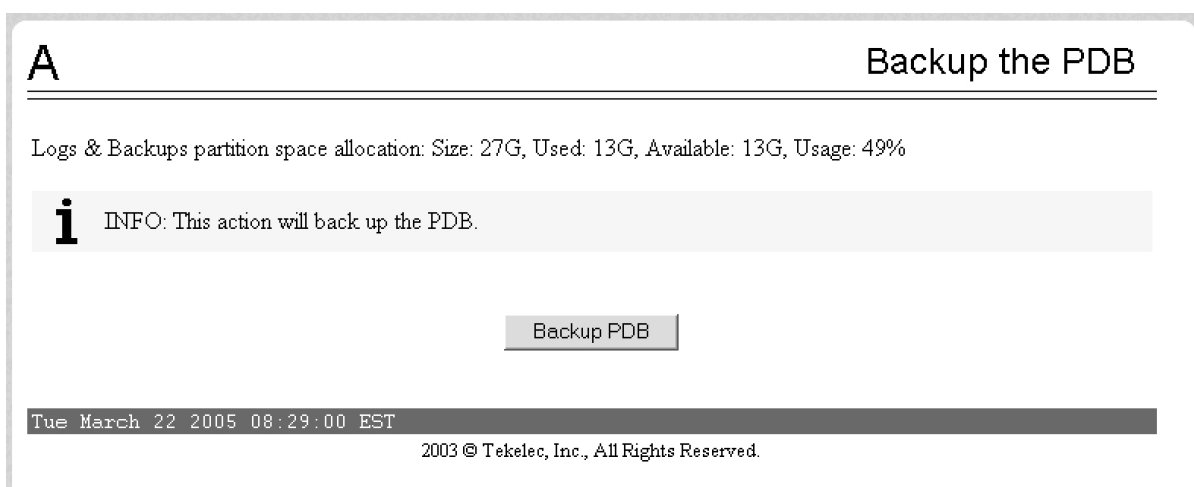

Figure 13: Backup the PDB
4. In the **Backup the PDB** screen shown in Figure 13: Backup the PDB, click **Backup PDB**.